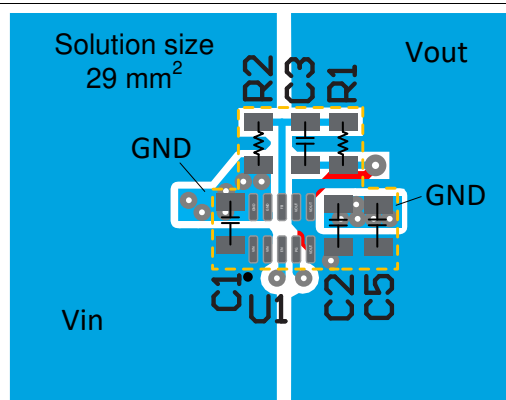

Figure 42. TPSM8282x PCB Layout
- Refer to Figure 42 for an example of component placement, routing and thermal design.